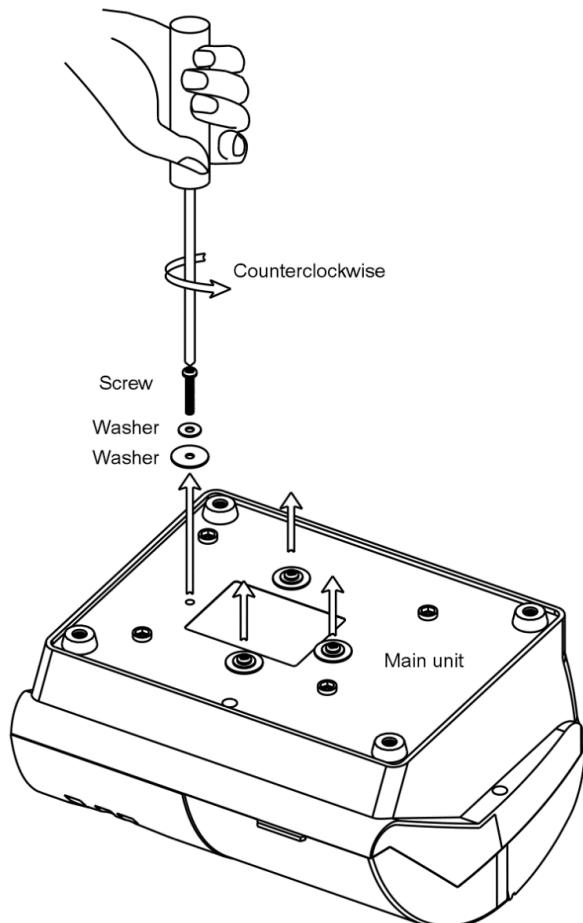

Fig 2
1) Take the main unit out of the packaging box, turn the bottom up, and place it on the desktop with a protective pad. As shown in Fig.2, remove the four red shipping screws with a screwdriver.